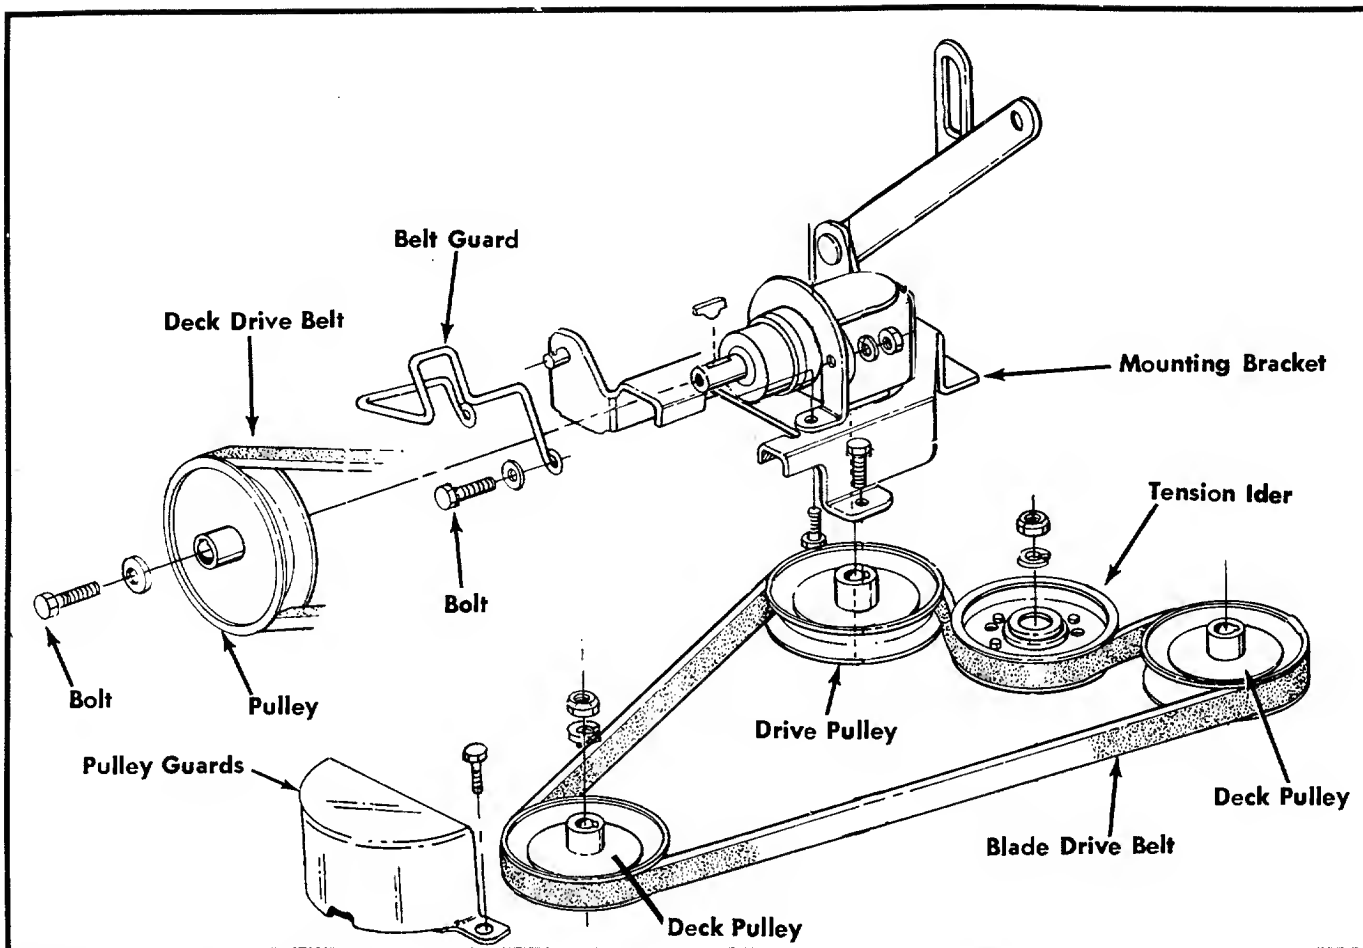

FIGURE 33. DECK DRIVE BELTS
- Step 1. Remove the two pulley guards on the deck. See figure 33.